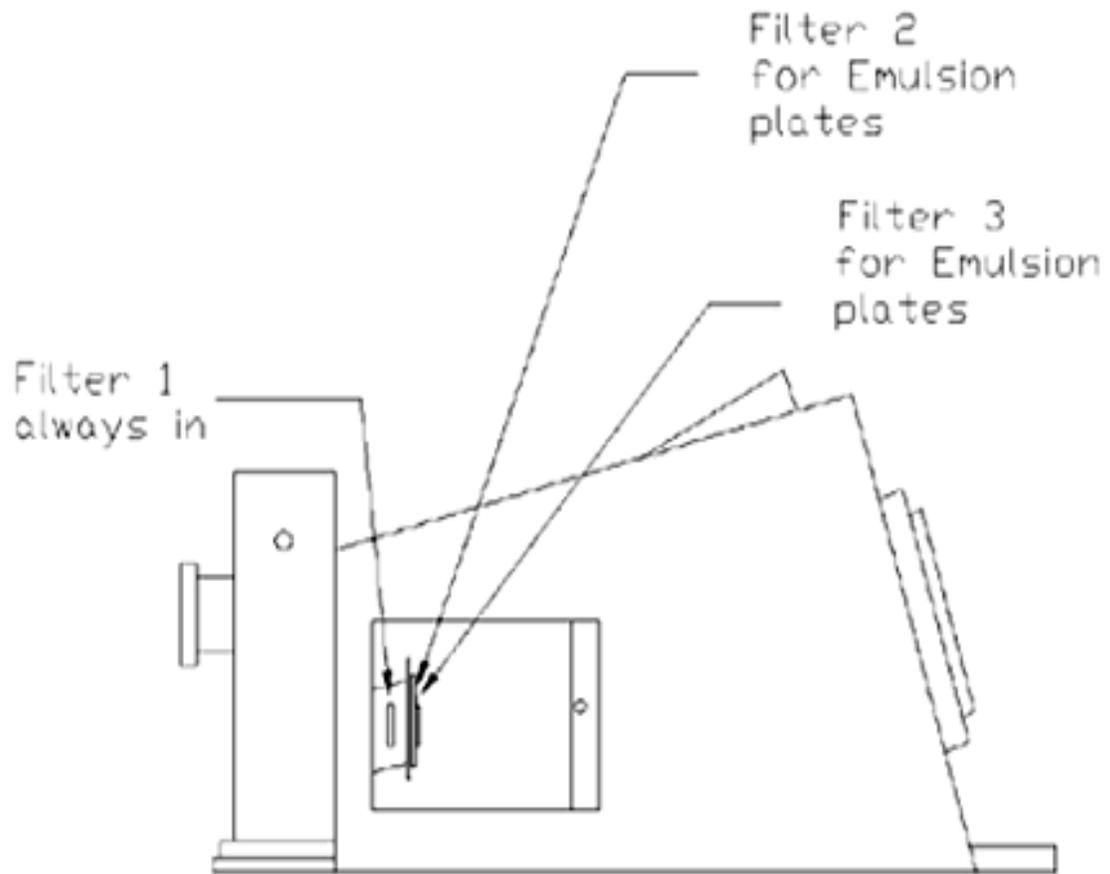

Figure 1 Tamarack Filter Placement
16. Check the filters in the slots inside the printer. (Figure 1 in Appendix)